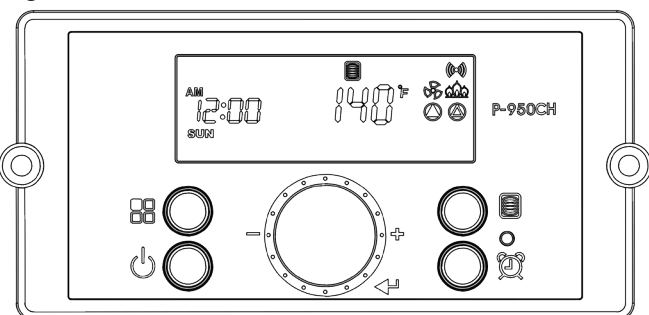

Figure 42 - DHW Set-Point Screen
**NOTE:** Refer Figure 42 when checking gas pressure. Loosen the bolts before checking the gas inlet pressure.
If the readings obtained are lower or higher than the combustion readings in Table 29, use a T15 Torx screwdriver to adjust the offset screw in a clockwise (positive) or counterclockwise (negative) direction (approximately 1/4 turn). See Figure 42. Check your combustion values. Repeat this procedure until the values obtained on the calibrated combustion analyzer agree with those stated in Table 29.